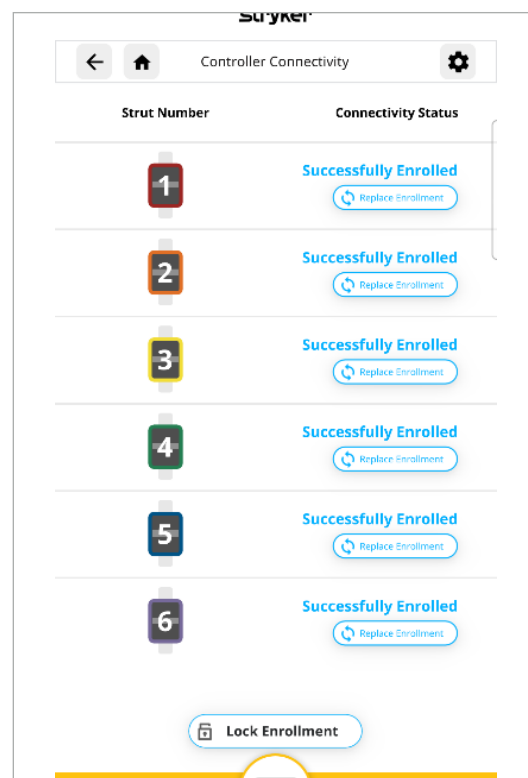

Figure 30
- Tap the Replace Enrollment button for the strut number to be replaced **(Figure 30)**